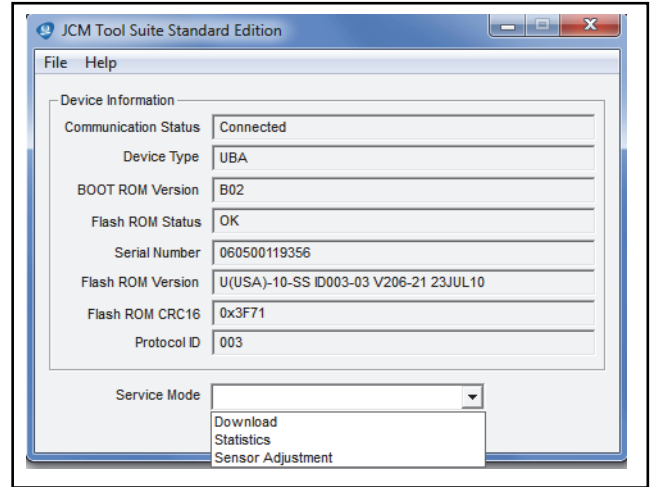

Figure 1: JCM Tool Suite Application (v1.18)
5. Click to select "Sensor Adjustment" in the **Service Mode** drop-down window (Figure 1).